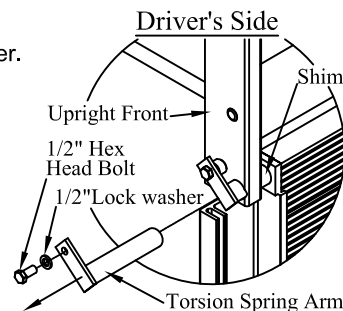

Figure 4: Driver side torsion spring arm.
6. **Remove** the 1/2" bolt and lock washer from the driver side torsion spring arm (Figure 4).
8. **Remove** the driver side torsion spring arm (Figure 4).
Note: Shims are used between the sub-assembly upright front and each end of the platform on aluminum platforms. Label which side each shim was located (Figures 4 and 6).